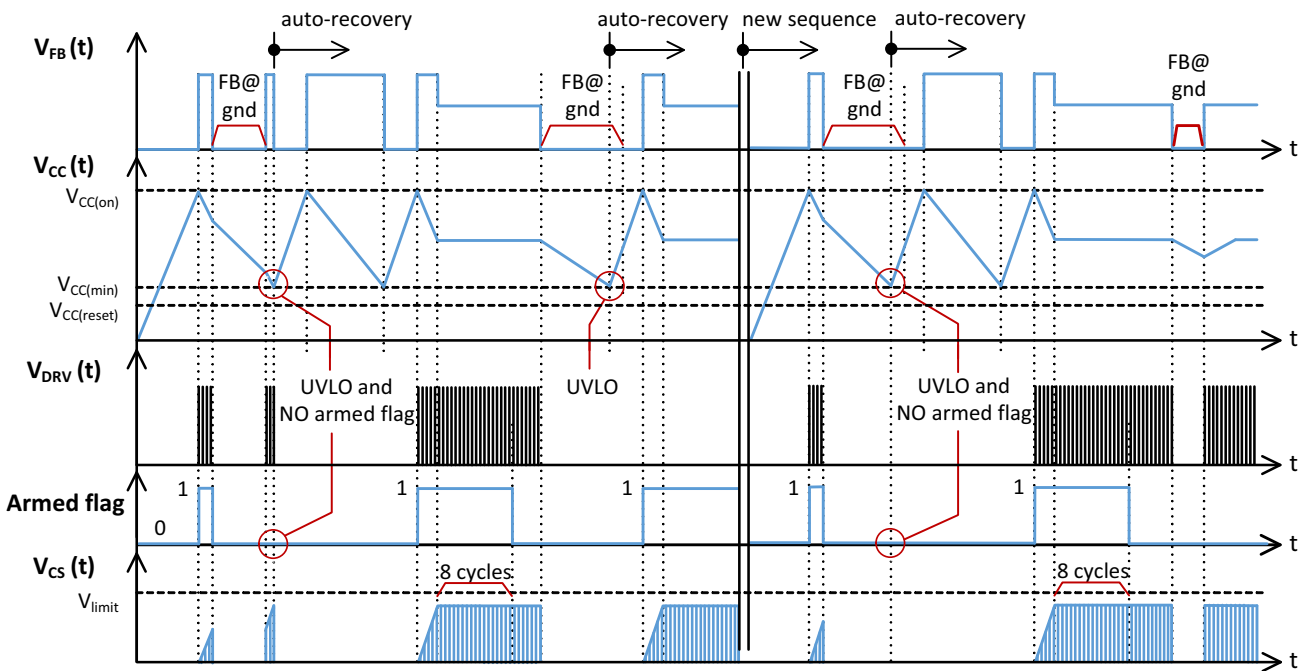

Figure 56. The controller behaviour during start-up sequence interrupted by grounded FB pin.
– this is the second armed flag cancelation condition. The Figure 56 shows the cases of interrupted start-up sequence by grounded FB pin.